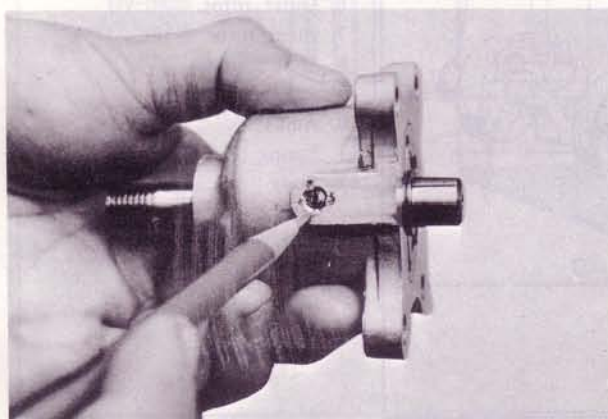

Fig. 2-8 Tightening intermediate plate
5. Install the middle plate to the body. Tighten the set screw. (Fig. 2-8)